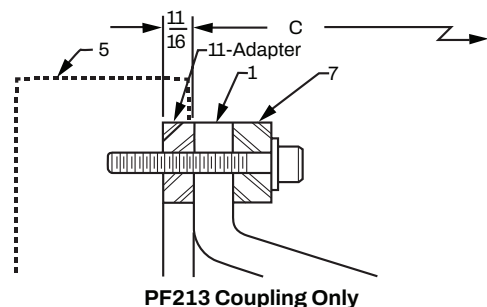

Figure 2 - Adapter Location
| (5) Flywheel | (11) Adapter (See Fig.2) |
On size PF213 place adapter between flexible element and flywheel (See Figure 2). Line up unthreaded holes in adapter with threaded holes in flywheel and place long screws in these holes. Fasten element to adapter with short screws. Tighten screws alternately and evenly and torque to values shown in column "B", in Table 1.